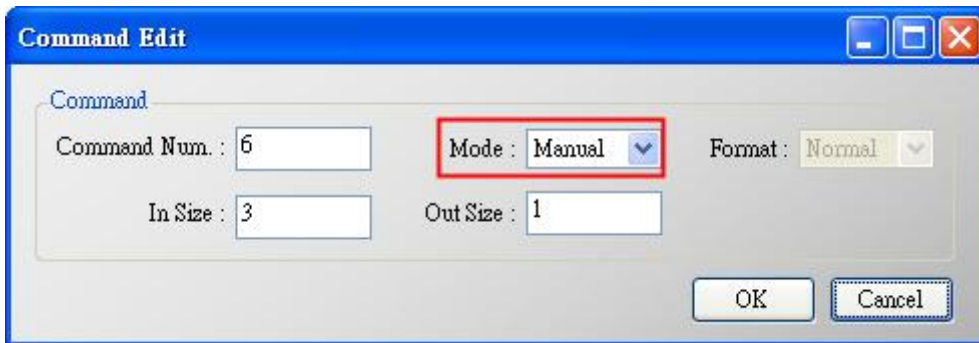

Figure 12-1 Add UserCMD(6)
- (1) Run “HG_Tool” and connect to HRT-710.
- (2) Open the “Device Configuration” page.
- (3) Add “UserCMD(6)” and choose “Manual” option in “Mode” field. (Figure 12-1)